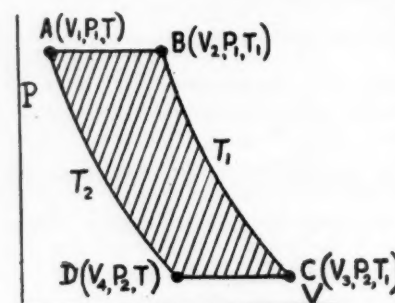

Fig. 22.—Schematic representation of an Ericsson type of hot air engine and Ericsson cycle.
*The Ericsson Type of Hot Air Engines.* In the Ericsson type of engines the air may be heated—as mentioned above—or by conduction or directly in a furnace. In the latter case the air is bound to be contaminated with the gases of combustion, and its corroding action at the temperatures used is very harmful. Fig. 22 represents schematically an Ericsson type of engine in which the air is heated by conduction. It consists of a compressing cylinder  $E'$  (the air used is first somewhat compressed) and a working cylinder  $E$ , provided with the pistons  $F'$  and  $F$  containing a heat insulating material and having the same piston rod  $G$  which is provided with mechanisms for the transmission of the power generated, a compressed air receiver  $J$ , a furnace  $L$  and a regenerator  $R$  (a cylinder containing wire gauze or pieces of sheet iron). Valves  $m, n, o, p$ , permit the interconnection between the vessels as shown. Cylinder  $E'$  is open to